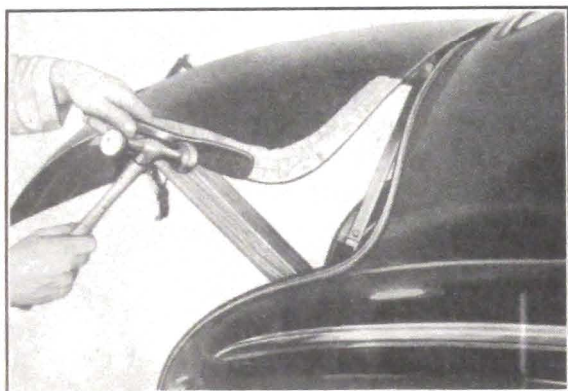

Fig. 1-120. Spring Hammering Edges of Compartment Lid
- shown in Fig. 1-120. Again, in other cases, it